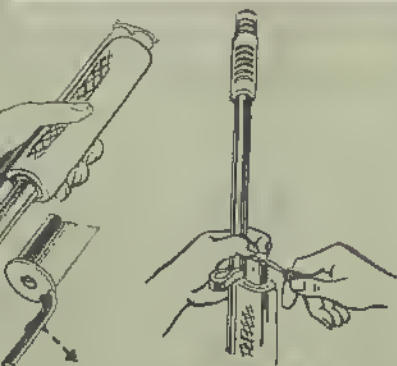

FIG. 5
**PLUGGING MAGAZINE FOR 3 SHOTS:** Remove magazine band screw. Move magazine band to one side. (See Figure 5 and 6). Remove both magazine